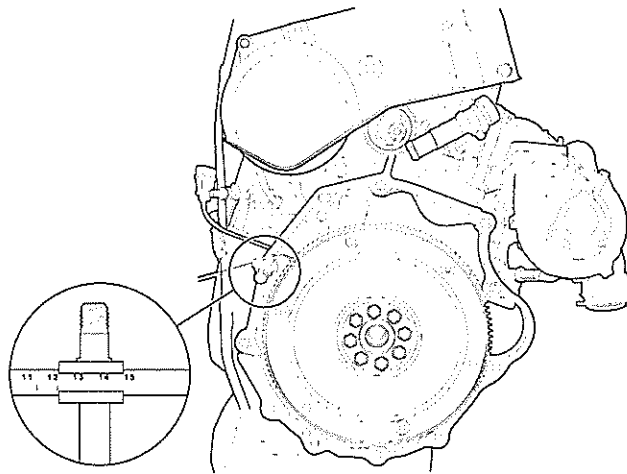

Fig 25 Location of TDC setting tool
- 103 Screw in TDC setting tool to correct location on flywheel housing (see Fig 25).
- 121 Remove adjustment ruler 905.3.12.102.1 from camshaft (see Fig 25). Install bottom camshaft belt guard.